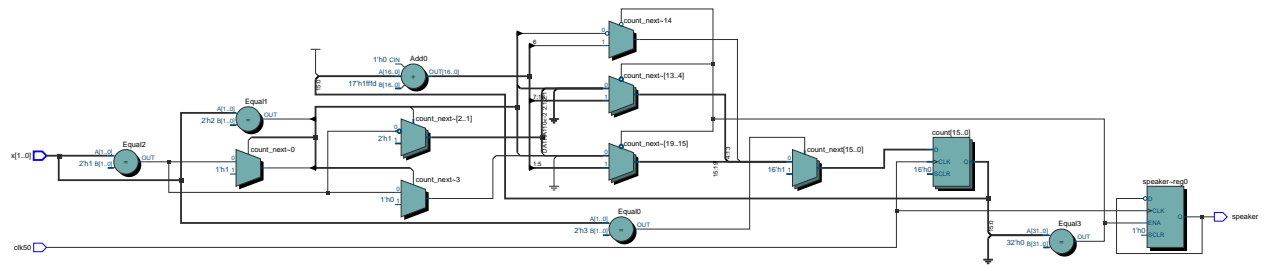

Figure 1: Example RTL Schematic for Lab 3.
- (d) The schematic created by **Tools > Netlist Viewers > RTL Viewer** and then **File > Export...**. The schematic might look like Figure 1.